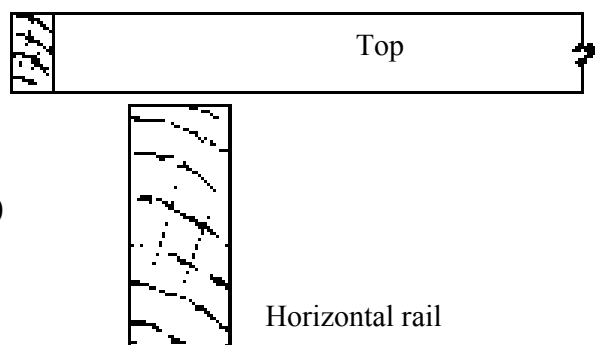

Fig. 10
35. Indicate on Figure 10, **ONE** method of fixing the laminated top to the horizontal rail of a table framework